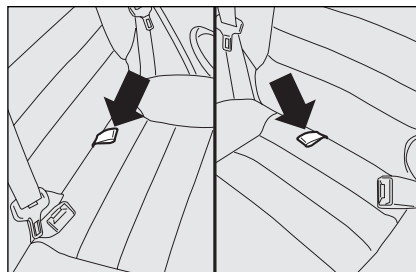

fig. 96
- ☐ pull the handle in the middle of the cushion **fig. 96**, and tilt the required cushion;